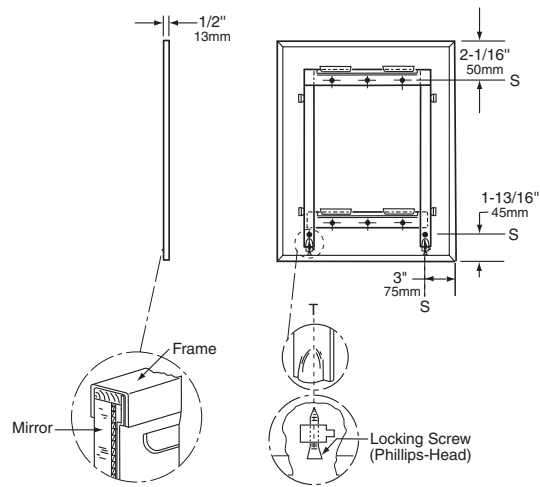

Figure: 2
**Frame** — Type-430 stainless steel, 1/2" x 1/2" x 3/8" (13 x 13 x 9.5mm) channel with 1/4" (6mm) return at rear with bright polished finish. One piece frame with 90 degree mitered corners. Galvanized steel back has integral horizontal hanging brackets near the top for hanging the mirror and near the bottom to prevent the bottom of the mirror from pulling away from the wall. Locking devices secure mirror to concealed wall hanger. In Screw Locking Design (see figure 2), concealed Phillips-head locking screws securely fasten mirror to wall hanger.